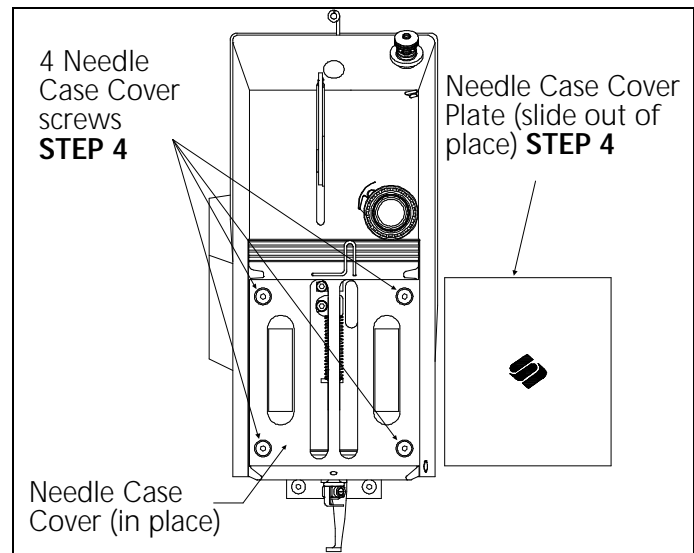

Figure 2
4. Slide the needle case cover plate out of the needle case cover and remove the 4 screws and needle case cover (see Figure 2).
18. Reinstall the covers and plug that were removed during this procedure (see Figure 2).